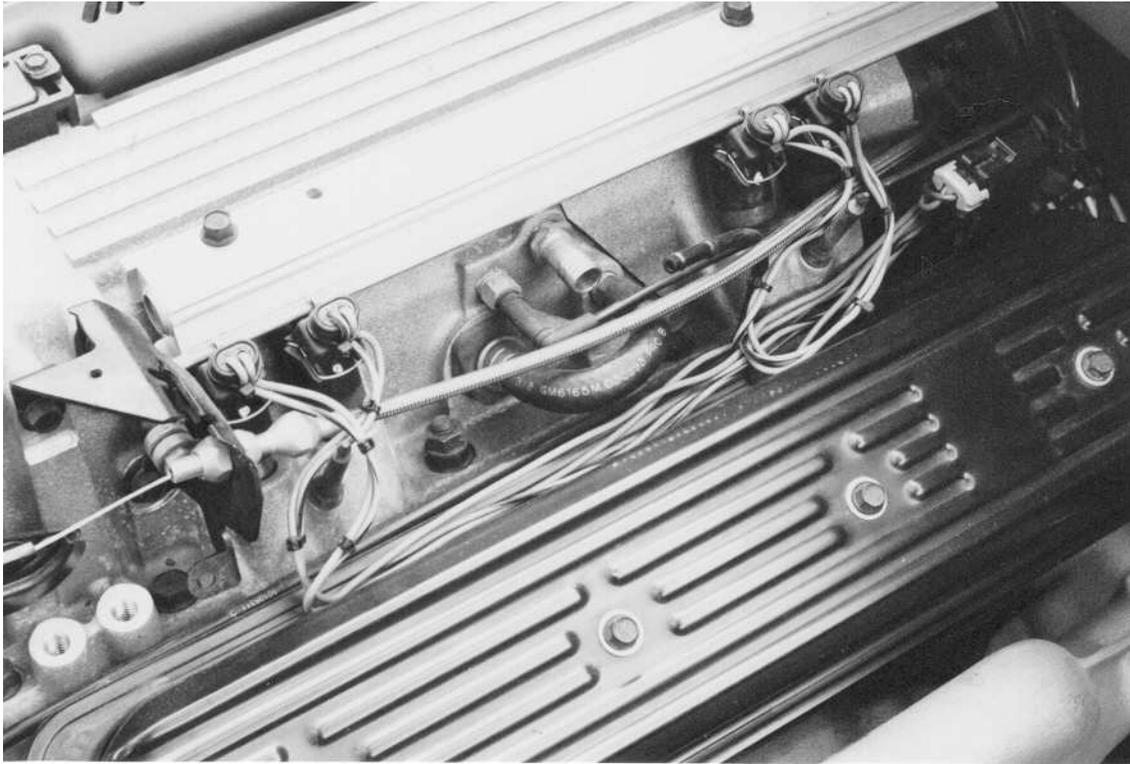

Figure 6.6 Engine Compartment Overview
- 6.3.3** Using **Figure 6.6** thru **6.16** and the specific connections indicated in **Table 6.1**, connect the wiring as directed.